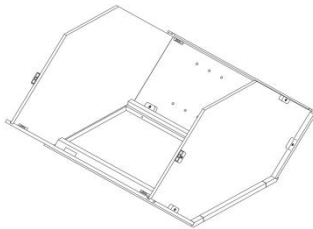

Figure 4
3. **Installing the Top and Bottom:** Gently spread side panels and insert top (**D**) and bottom (**C**) into grooves of side panel (**B**) until they touch the face frame (**A**) (**Figure 4**). Align them and lock each cam (**Figure 5**).